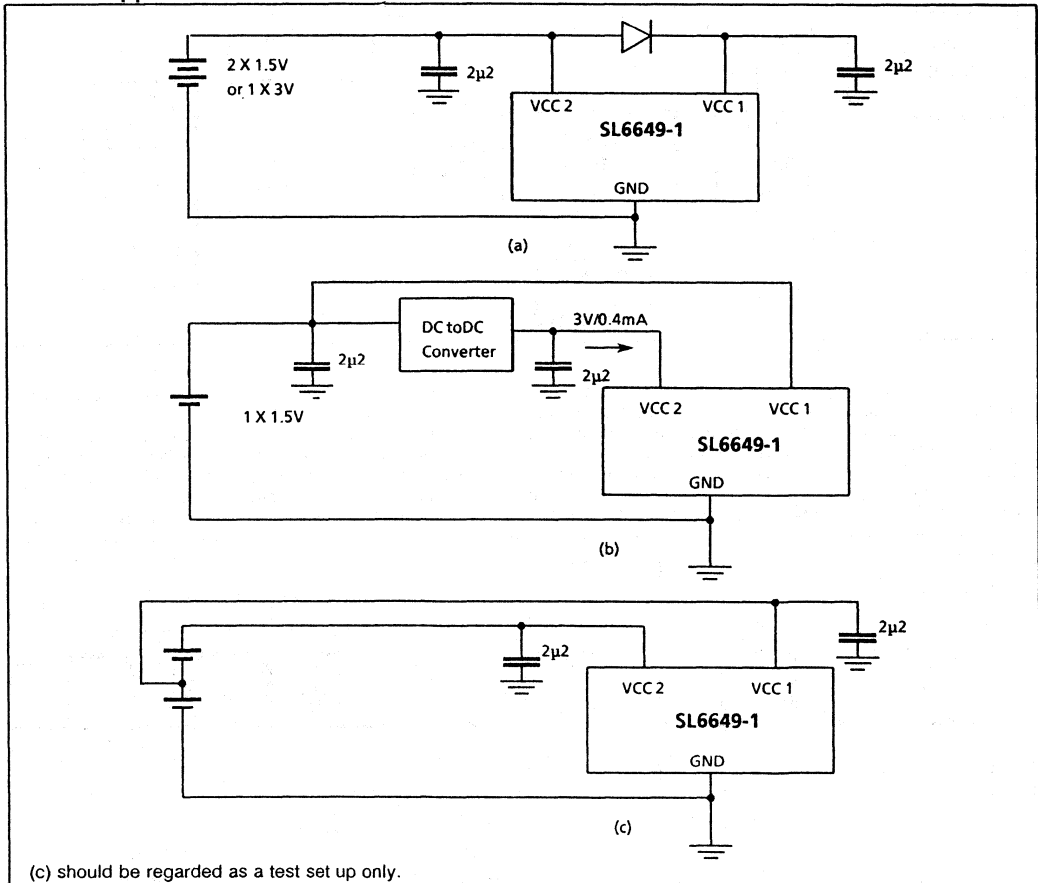

Fig. 13 (a) SL6649-1 Power Supply Options
5. An interference free low impedance P.S.U. (Vcc1 and Vcc2 must be separate supplies and there must be at least 0.7V difference between them). Recommended supply configurations are shown in Fig. 13.